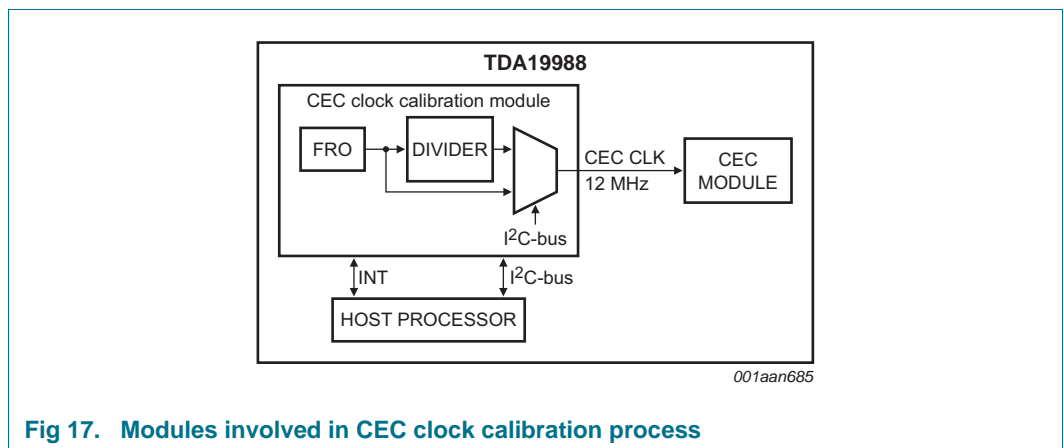

Fig 17. Modules involved in CEC clock calibration process
- FRO (Free Running Oscillator). FRO frequency varies and in the range from 12.64 MHz to 12.9 MHz. See Figure 17.